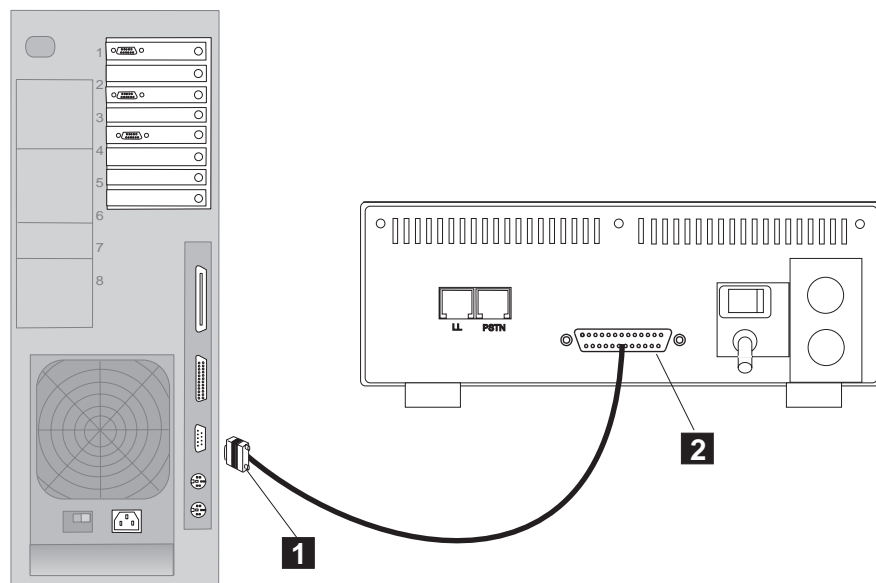

Figure 1-84. Connecting the Service Processor (9585) from COM1 to the 7857
- **9585**, refer to Figure 1-84 on page 1-73